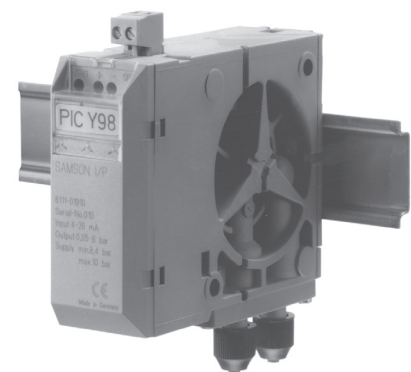

Fig. 1: Type 6111 i/p Converter, rail-mounting unit
- Type 6111 as a rail-mounting unit (Fig. 1) · Mounted on a top-hat rail